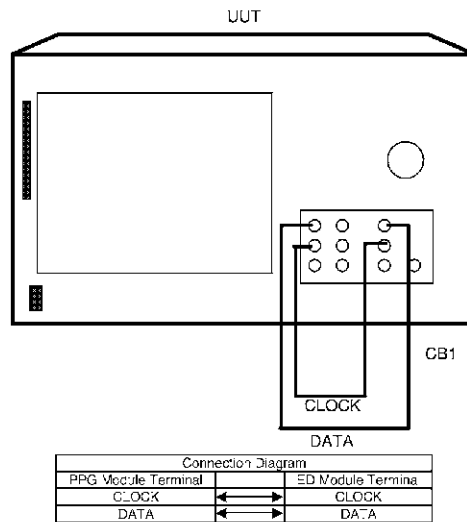

Figure 1-14 Setup of Jitter Tolerance Test
1. Connect equipment as shown in Figure 1-14.